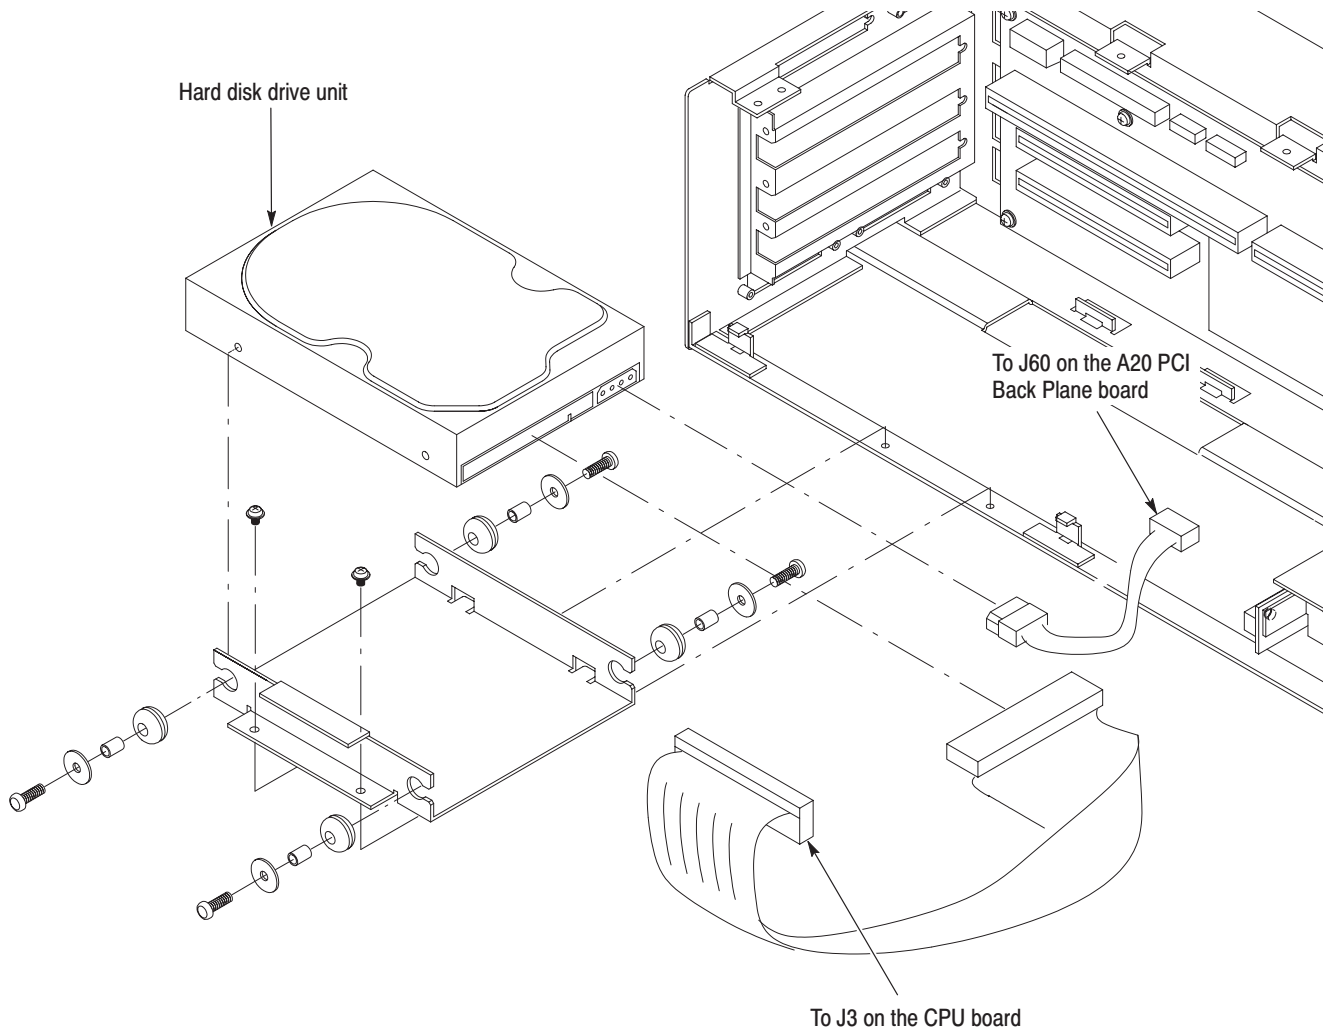

Figure 6-12: Hard disk drive removal
3. *Remove the hard disk drive:* See Figure 6-12.